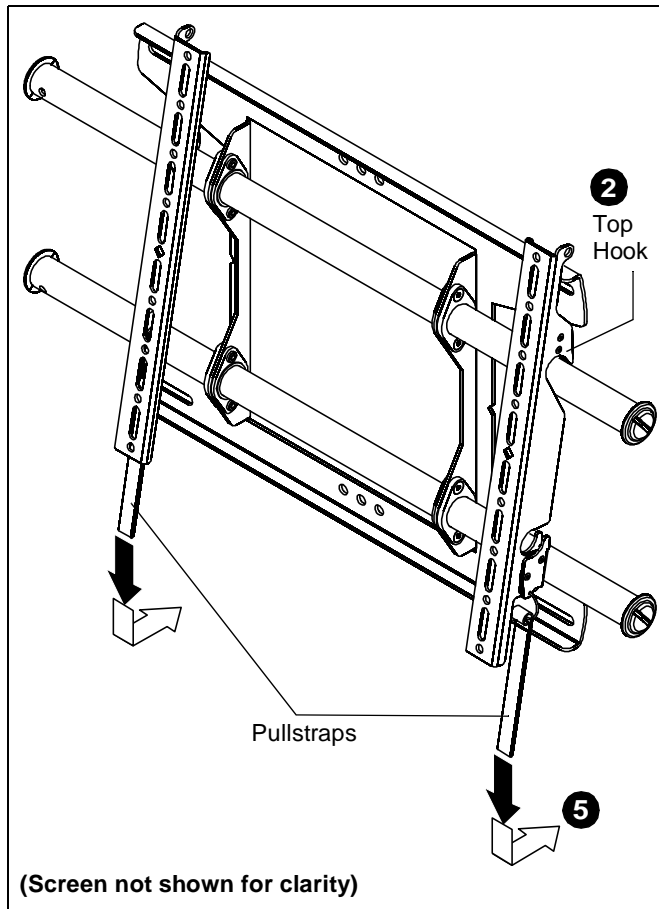

Figure 9
(See Figure 9)
5. Pull downward on the pullstraps and swing inward toward wall, latching uprights to lower bar and locking bottom of screen to the mount. (See Figure 9)